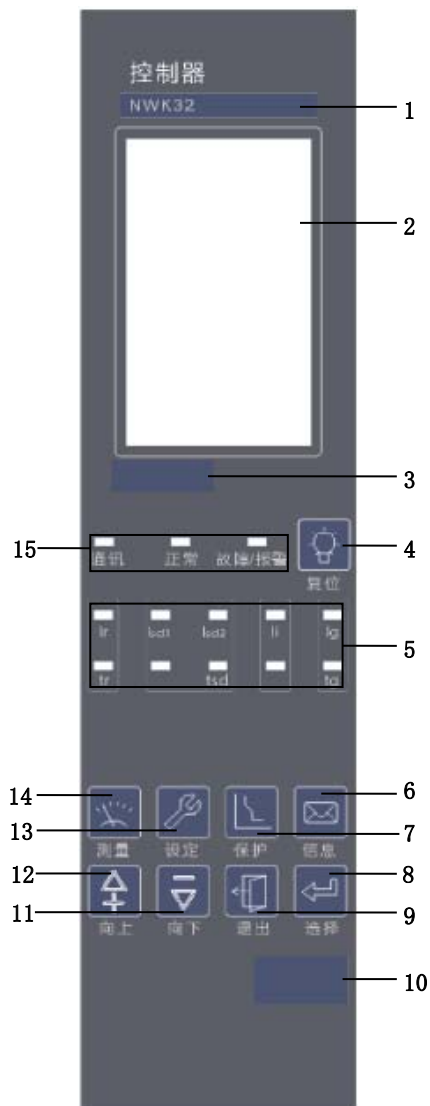

Figure 5
2) NWK32 controller, as shown in Figure 5